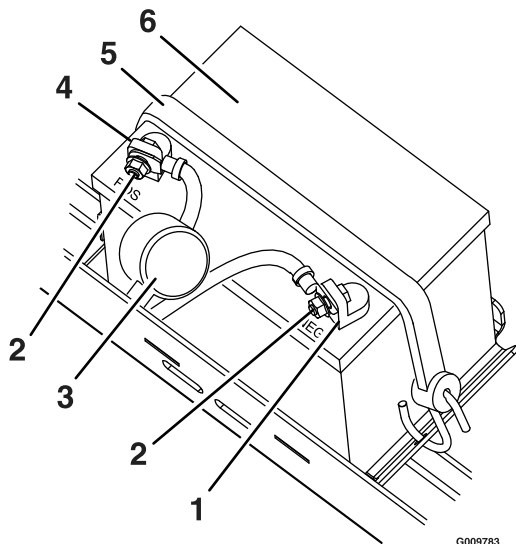

Figure 29
4. Disconnect the negative (black) ground cable from the battery post (Figure 29). Retain all fasteners.
6. Remove the battery strap (Figure 29) and lift the battery from the battery tray.
1. Position the battery in the tray with the terminal posts toward the operating position (Figure 29).
5. Secure the battery with the strap (Figure 29).